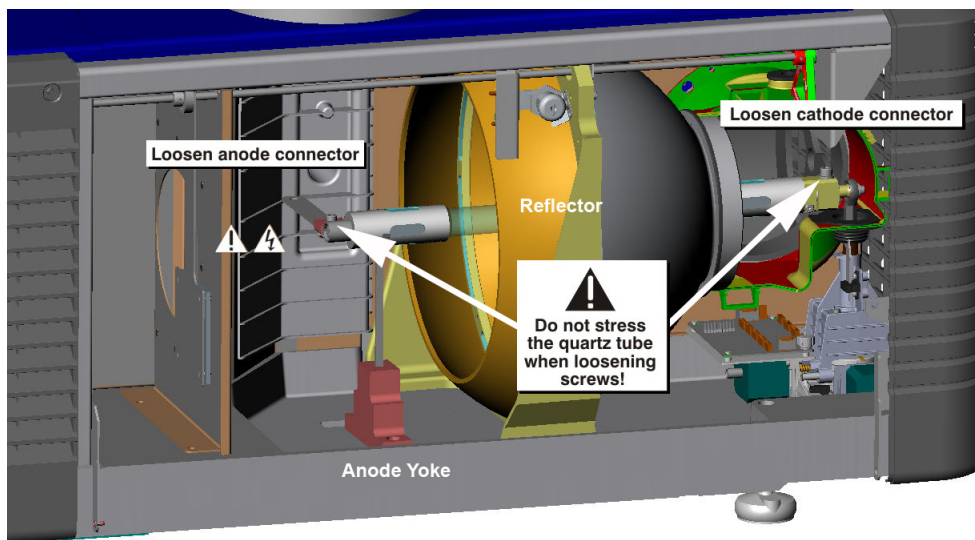

Figure 7-1 Removing the Lamp
5. Loosen set screws from the negative cathode and the positive anode lamp connectors. Make sure to apply minimal torque and DO NOT STRESS the quartz tube. **(Figure 7-1).**